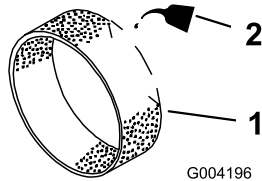

Figure 145
- Put 3 to 6 cl (1 to 2 fl oz) of oil on the pre-filter (Figure 145).